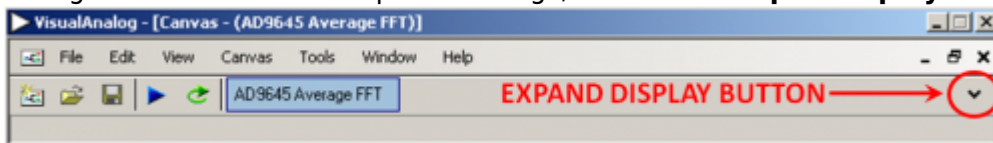
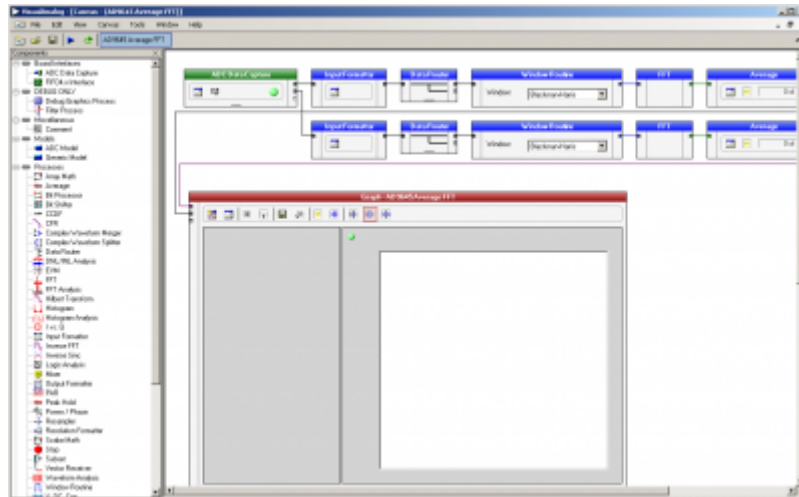

Figure 5. VisualAnalog Window Toolbar, Collapsed Display
Figure 6. VisualAnalog, Main Window Expanded Display
3. To change features to settings other than the default settings, click the **Expand Display** button, located on the bottom right corner of the window (see Figure 5), to see what is shown in Figure 6.